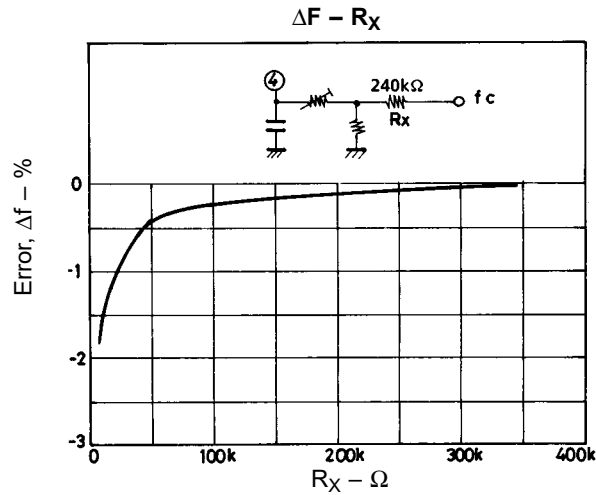

Figure 2
- b) Connect the connection point of the semifixed resistor connected to pin 4 and the fixed resistor to a frequency counter through the  $R_X$  of 240 k $\Omega$ . Fig. 2 shows how the error changes as the  $R_X$  value is decreased.